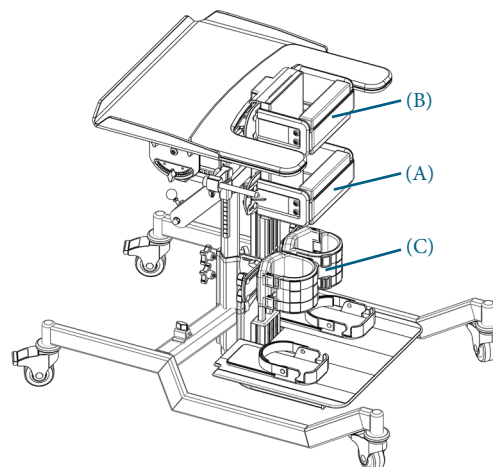

Fig. 11.2.1 - VERTIFLEX standard ventral montré
11.2.1 VERTIFLEX TYPE VENTRAL (Fig. 11.2.1)